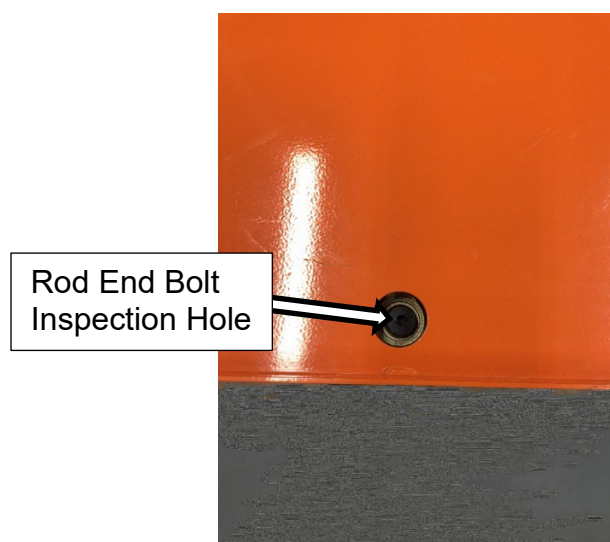

Figure 6. Fully Retracted (Rod End Visible)
- b. Move the Pusher Blade to the fully retracted position (Figure 6). The rod end bolt should be visible in the inspection hole on the orange blade.